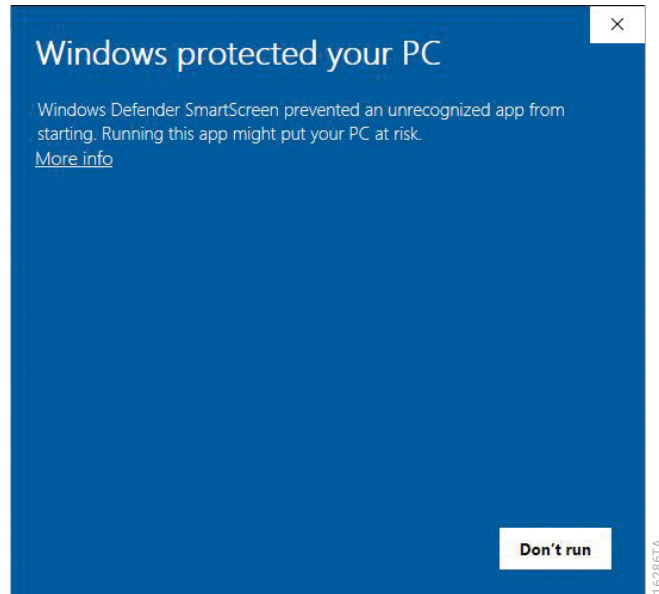
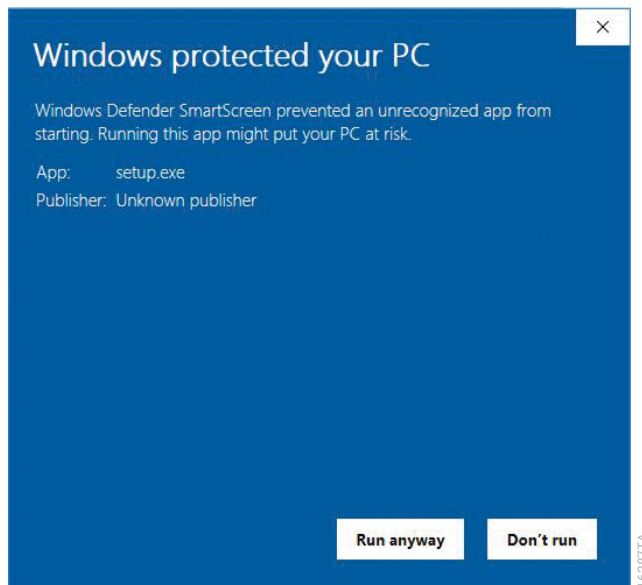

Figure 185. Windows® 10 Warning Window.
Figure 186. Windows® 10 Warning Window: Run Anyway.
2. Run the setup.exe application by right clicking on the setup.exe application and “Run as administrator” to initiate installation. A warning screen may appear, depending on the operating system (Figure 185, example from Windows® 10 operating system). Select **More info** and then **Run Anyway** (Figure 186).